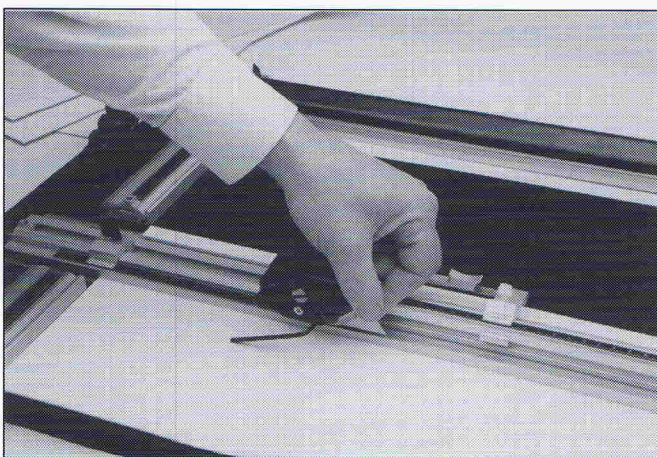

Fig. 14
1. Loosen the vertical blade locking screw by half a turn using the 3mm Allen key. Slide the blade out of the front of the blade holder (Fig. 14).